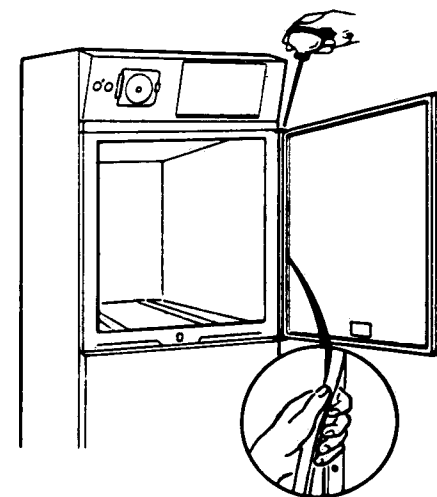

Figure 3-7. LUBRICATING DOOR HINGE AND REPLACING DOOR GASKET.
2. Lubricate door hinge (Fig. 3-7) by placing a few drops of heavy machine oil (SAE 20 or 30) on hinge pins. Work oil into hinge by opening and closing door several times.
3. Inspect door gasket (Fig. 3-7). If it is brittle or cracked, or a leak has been detected around the door, replace gasket as follows: